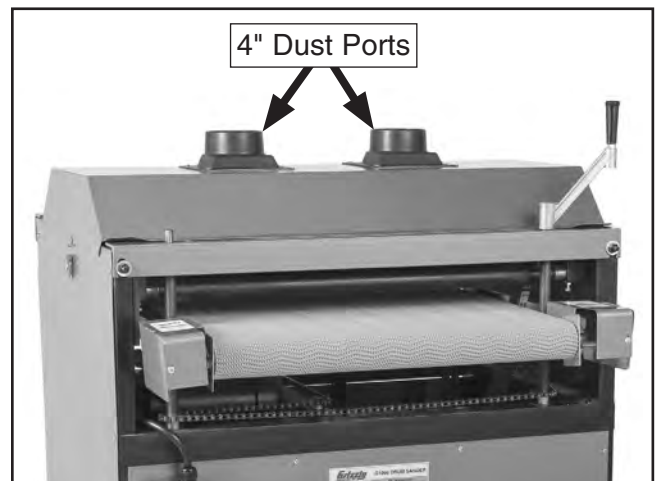

Figure 17. Location of 4" dust ports (G1066R shown).
- Fit (2) 4" dust hoses over dust ports (see **Figure 17**), and secure in place with (2) hose clamps.